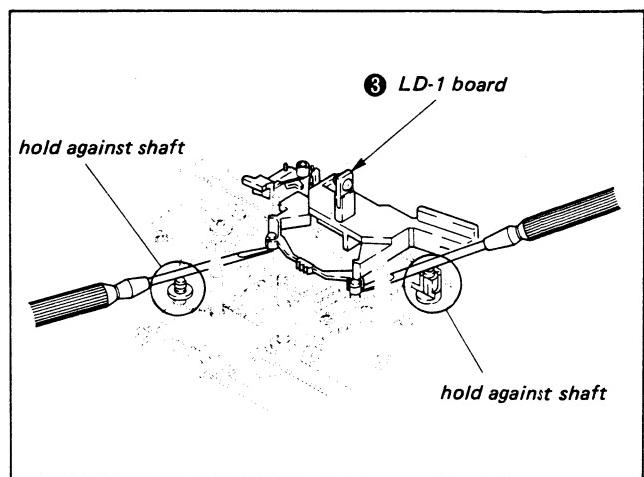
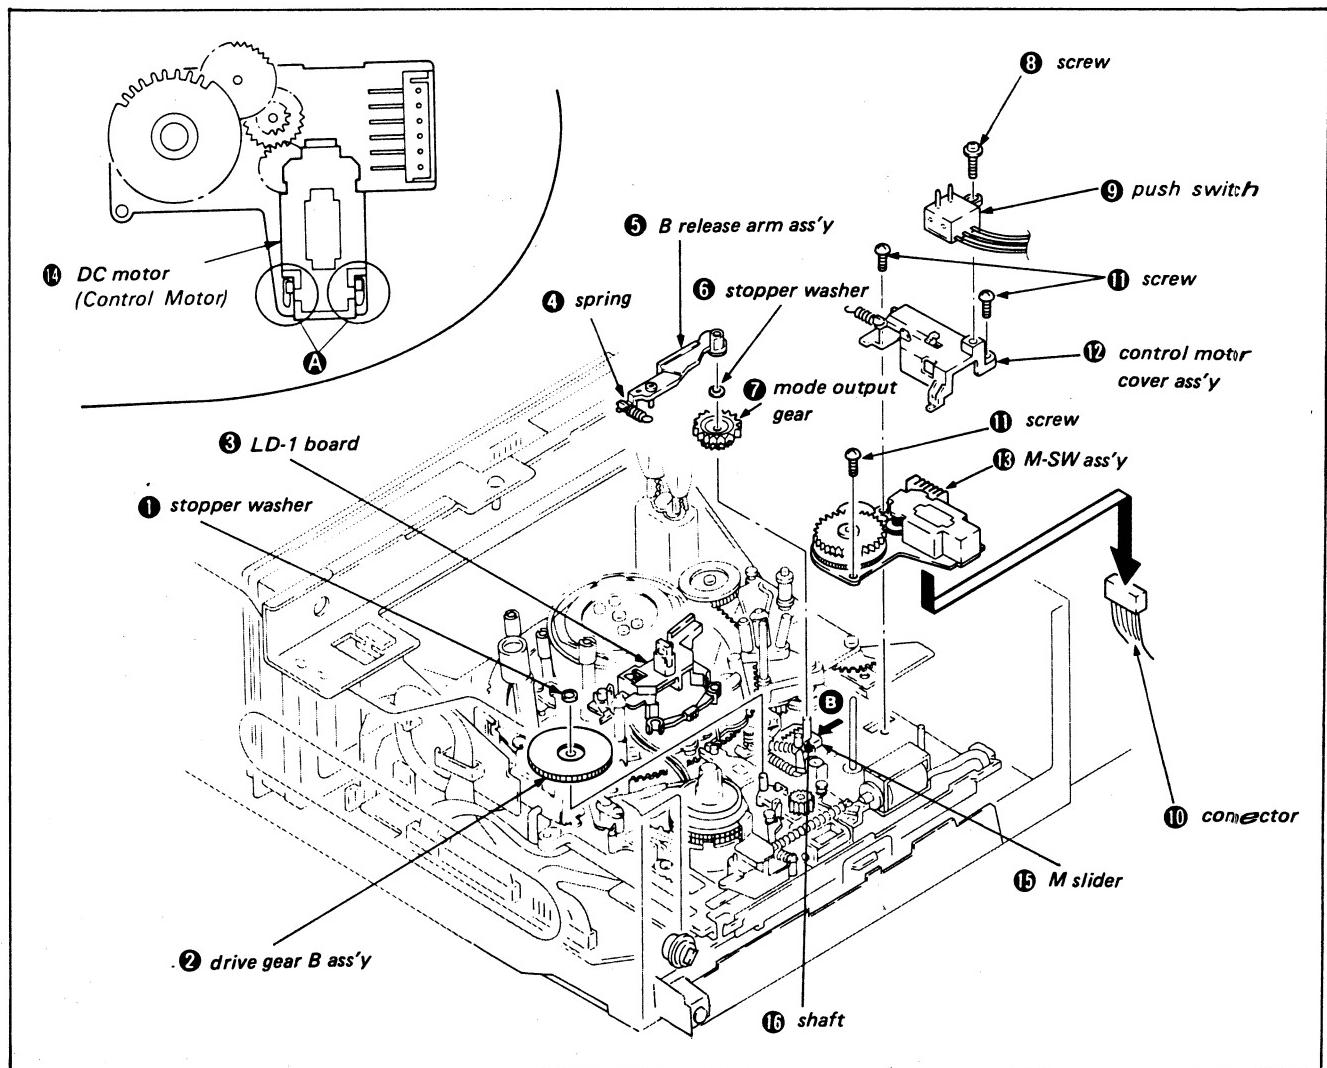
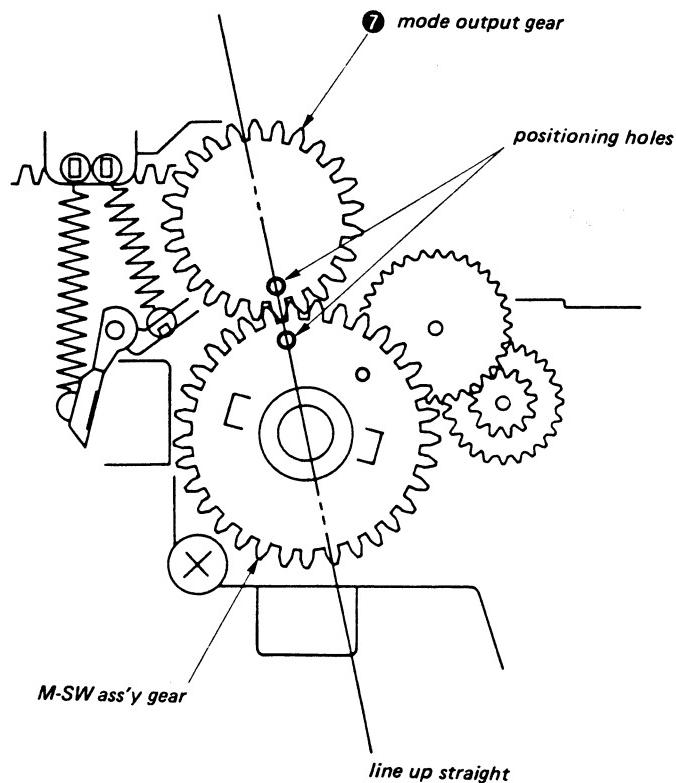

Fig. 3-33.
Fig. 3-34.
Fig. 3-35.
- 3) Remove stopper washer ① and the drive gear B assembly ②.
- 4) Remove the LD-1 board. (See Fig. 3-33)
- 5) Remove lock slider ③ assembly according to 3-13., 1. Removal, 3), 4) and 5).
- 6) Remove spring ④ and B release arm assembly ⑤.
- 8) Remove stopper washer ⑥ and the mode output gear ⑦.
- 9) Remove screw ⑧ and the push switch ⑨.
- 10) Remove connector ⑩.
- 11) Remove the three screws ⑪, the control motor cover assembly ⑫ and the M-SW assembly ⑬.
- 12) Remove solder ⑬ and remove the DC motor ⑭. (Refer to Fig. 3-34)
- 1) Solder the DC motor (Control Motor) ⑯.
- 2) Mount the M-SW assembly ⑬ and the control motor cover assembly ⑫, and tighten the three screws ⑪.
- 3) Connect connector ⑩.
- 4) Mount push switch ⑨ and tighten screw ⑧.
- 6) Check that M slider ⑮ is moved fully in the direction of arrow ⑮.
- 7) Place a half drop of oil on shaft ⑯. (Fig. 3-34)
- 8) Mount the mode output gear ⑦ so that the positioning holes are lined up. (Fig. 3-35)
- 9) Mount stopper washer ⑥.
- 11) Mount B release arm assembly ⑤ and spring ④.
- 13) Mount the LD-1 board ③.
- 14) Mount drive gear B assembly ② and stopper washer ①. (Fig. 3-34)